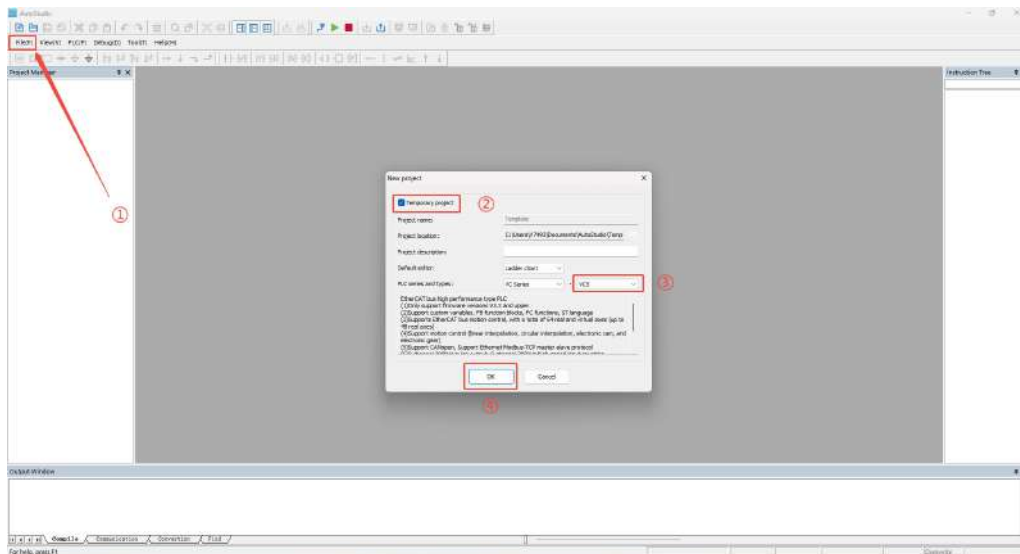

Figure 3-9 Create VC5 New Project
Step 1: Open the PLC programming software AutoStudio and create a new temporary project with PLC type VC5, as shown in Figure 3-9.